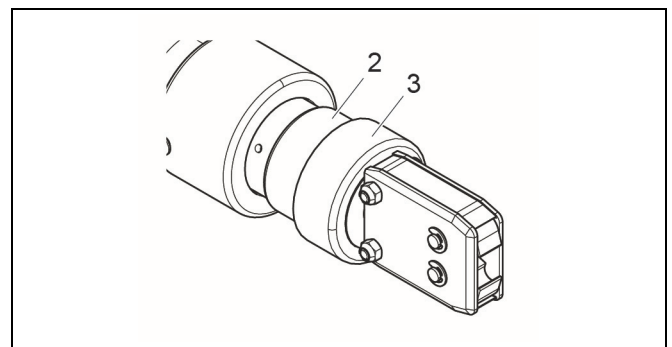

Fig. 13: Rotate pincer head
2. Grip pincer head in area 2 (Fig. 13/2) and rotate into the desired position.
- ▶ During operation, ensure that the union nut is tightened at all times (Fig. 13/3).